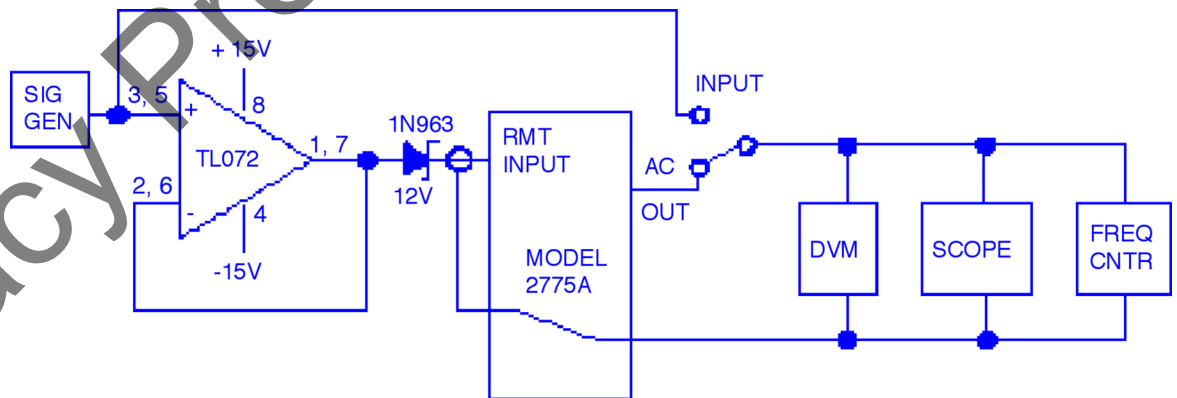

FIGURE 5-12: REMOTE GAIN
Set the FUNCTION switch to OUT CAL and the FULL SCALE switch to 3K. Measure the ac amplitude at U17 pin 7 and adjust the AC ADJ for exactly this ac reading times .9852 at the AC OUT. Set the FUNCTION switch to OP and set the back panel MODE switch to RMT and connect a 1 KHz sine signal through the current blocking circuit (fig 5-12) to the REMOTE INPUT (J4). Set the MUTIPLIER switch to 1 and set the FULL SCALE switch per the following table.
- A. The low frequency response must be measured using an oscilloscope or a special low frequency measurement device (such as a Solartron 1250 Frequency Response Analyzer). Use the previous setup. Set the FULL SCALE switch to 100. Set sensitivity to 1.00. Set multiplier to 1.0. Set the FUNCTION switch to OP and adjust the input level to read 1.000 Vrms at the AC OUTPUT. Adjust the frequency and make the following readings; (Same set-up as Figure 5-12).
- B. The high frequency roll off is determined by the full scale range selected in combination with the multiplier. Set the AC OUTPUT to 1.00 V rms at 1 KHz for the reference frequency point. By adjusting the input source increase the frequency until the AC OUTPUT drops to the -5% point and record the frequency, next increase the frequency until the AC OUTPUT drops to the -30% (-3dB) point and record the frequency. Readjust the input source until the AC OUTPUT reference is 1.00 Vrms at 1 KHz for each full scale range. The frequency recorded should be greater than the frequency listed for each full scale range (Figure 5-12).